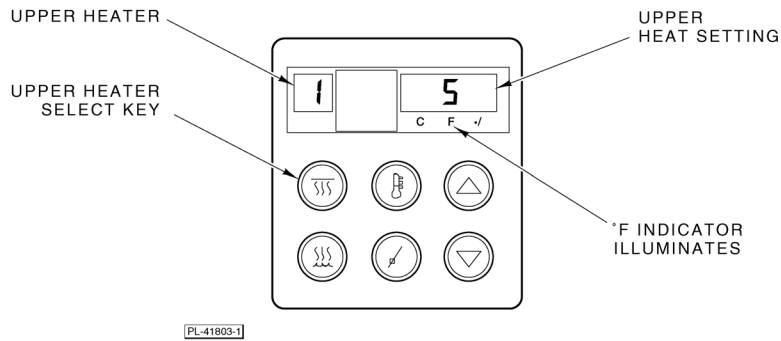

Fig. 19
- The left display shows upper heater selected (Figs. 19 and 14).
- The right display shows the heat setting of selected heater (Fig. 19).